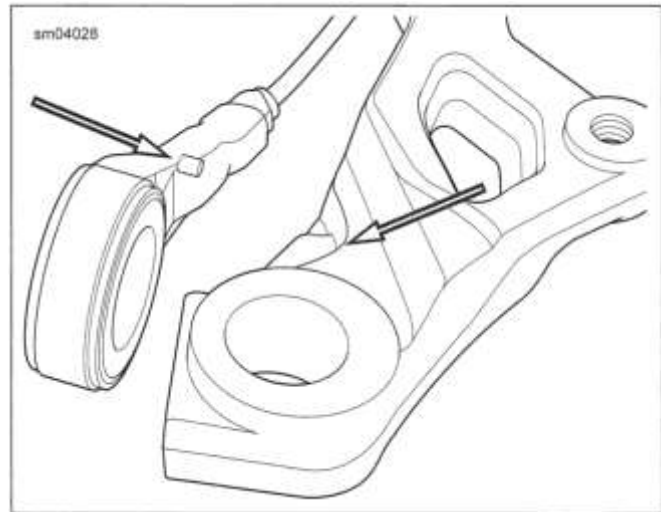

Figure 8-109. Rear Wheel Speed Sensor Index Pin
1. See Figure 8-109. Hold **new** rear WSS in place with index pin outboard toward rear fork, and push axle through sensor, caliper bracket and right side of rear fork.
3. See Figure 8-109. Rotate rear WSS until index pin makes contact with caliper bracket at point shown.